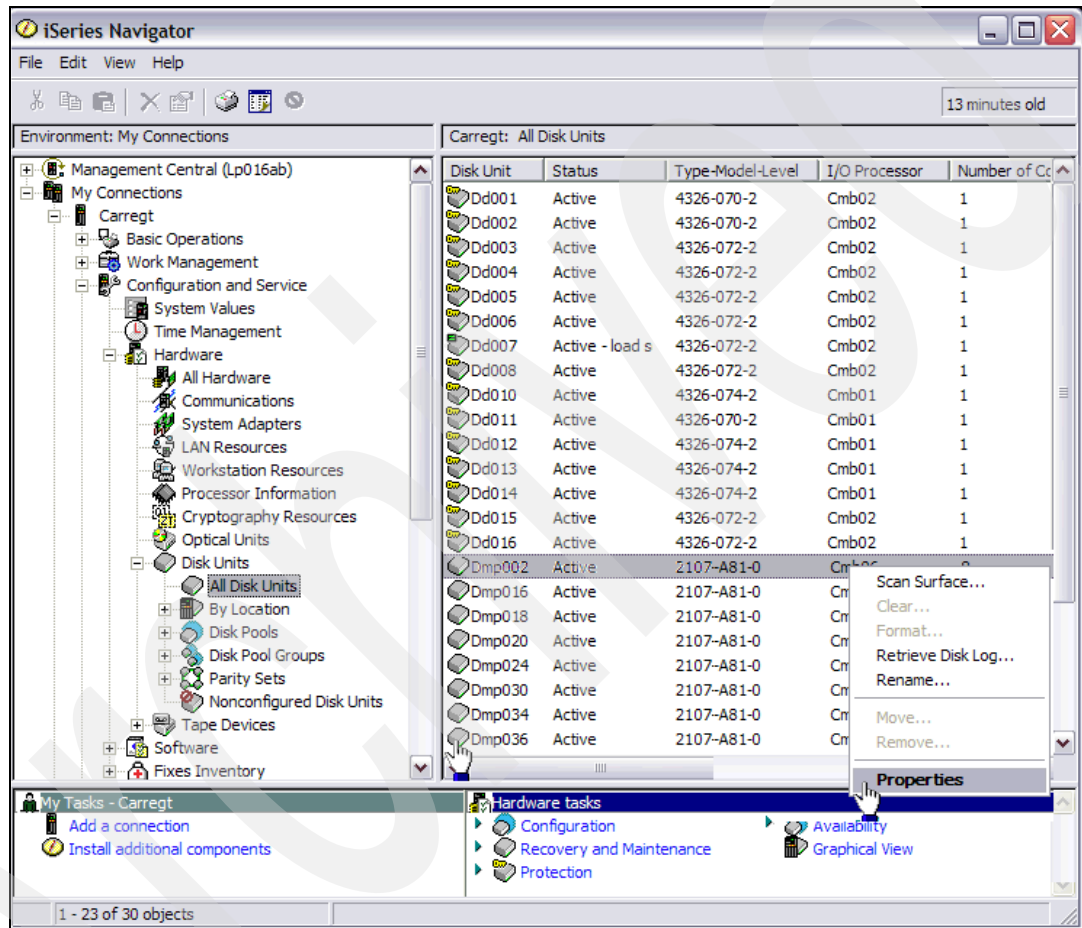

Figure 17-25 Selecting properties for a multipath logical unit
1. To see the number of paths available for a logical unit, open System i Navigator and expand **Configuration and Service** → **Hardware** → **Disk Units**, as shown in Figure 17-25, and click **All Disk Units**. The number of paths for each unit is shown in the column *Number of Connections* that shows on the right of the window. In this example, there are eight connections for each of the multipath units.
2. To see the other connections to a logical unit, right-click the unit and select **Properties**, as shown in Figure 17-25.